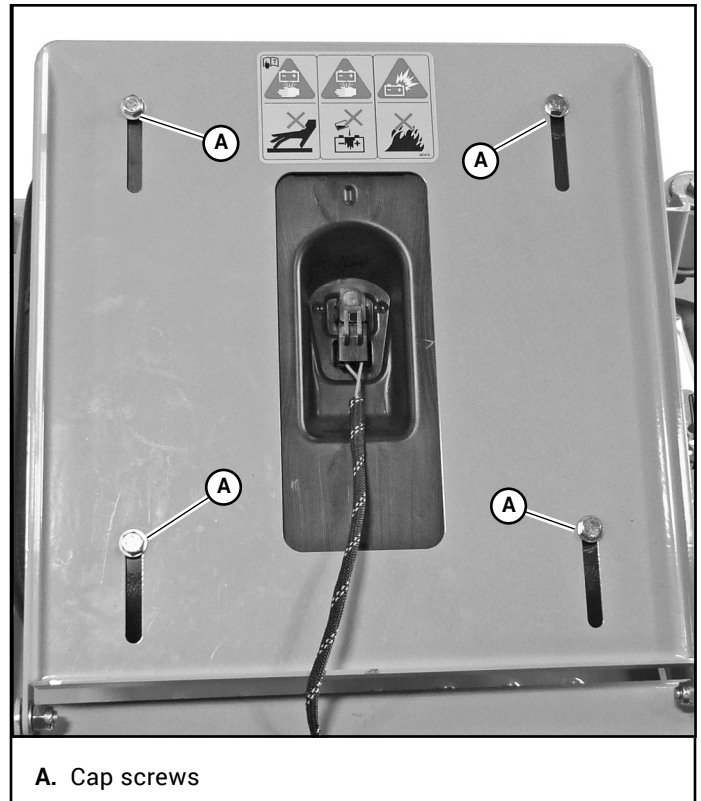

Figure 4-9
2. Loosen the four cap screws on the underneath side of the seat platform. Figure 4-9
4. Tighten the cap screws. Torque to 7 ft-lbs (9 N·m). Figure 4-9